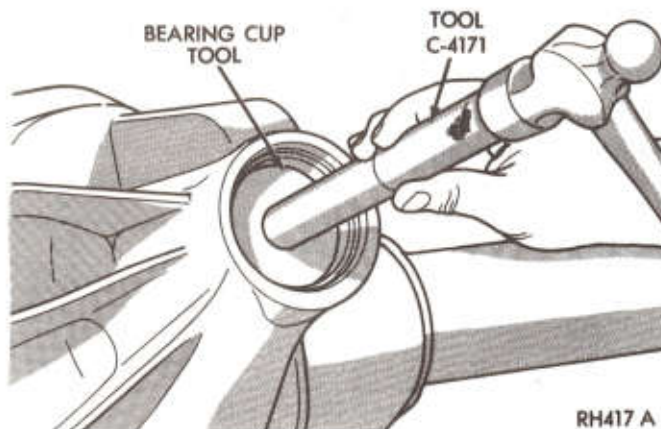

Fig. 19—Installing Outer Pinion Bearing Cup
(1) Using Tool D-144 and Tool C-4171 drive the outer pinion bearing cup into the carrier (Fig. 19).